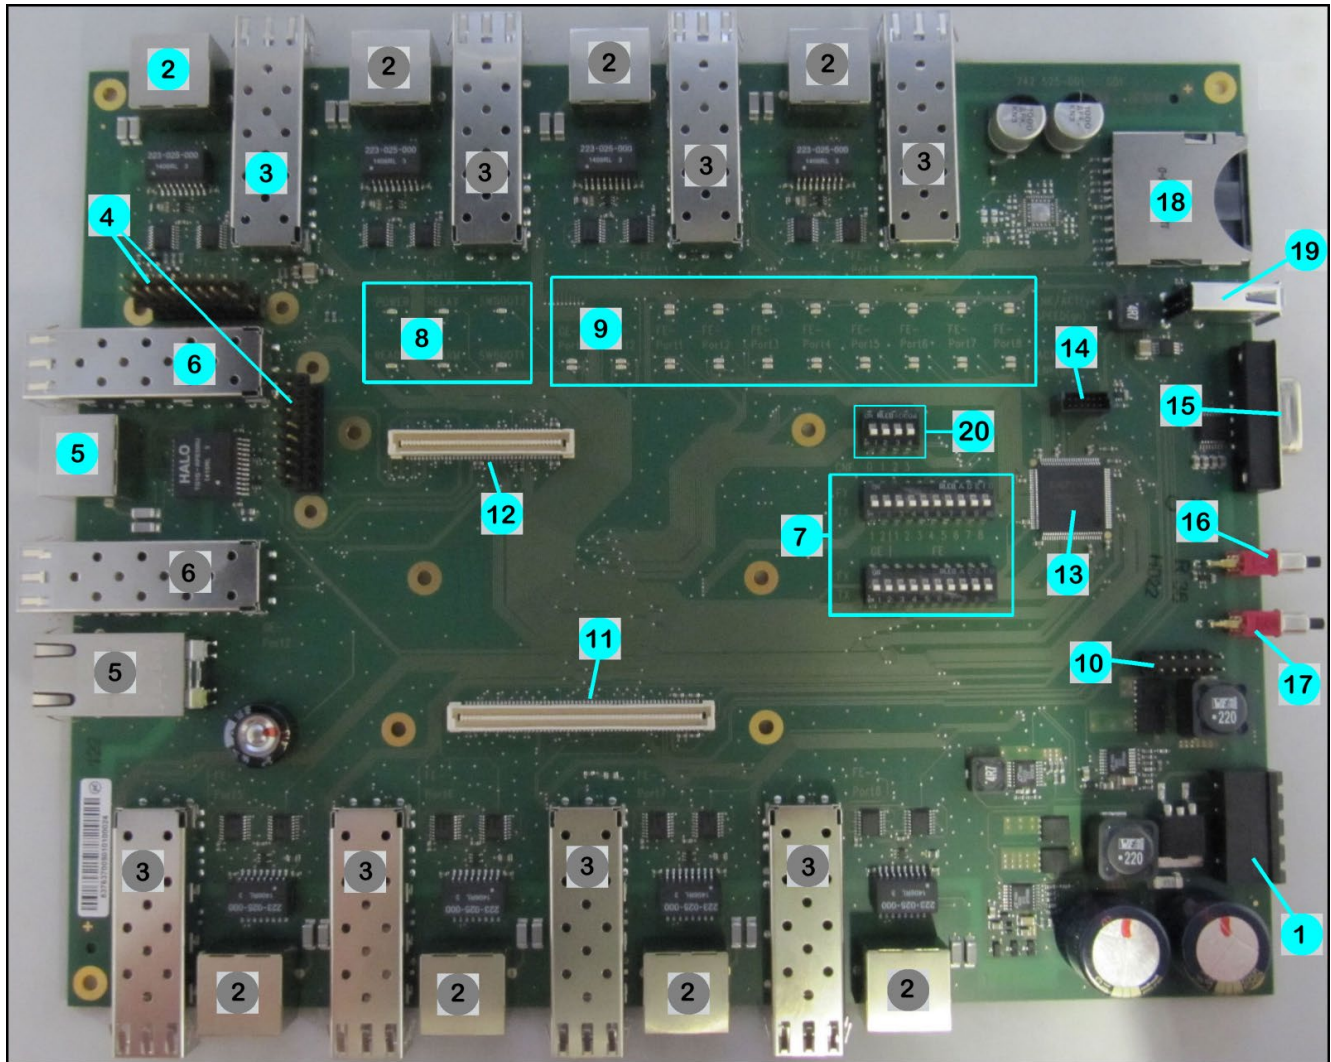

Figure 1-1: Components of the PCB-assembly
The 12-pin, dual-row connector on the EESX-Evaluation-Board give access to several EESX spare signals on connector CO402 which are reserved for future use. (See (10) in Figure 1-1.)